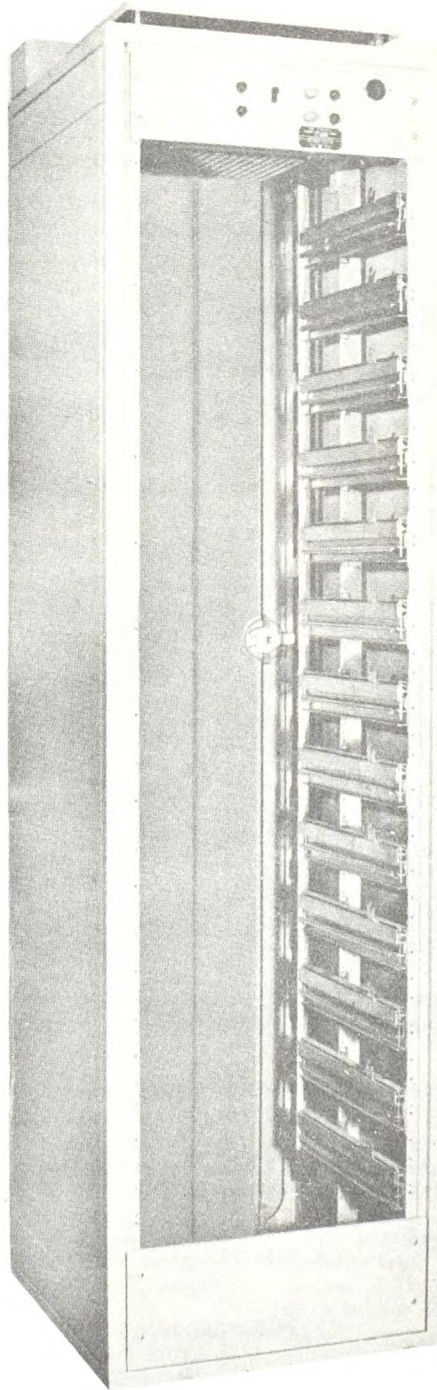

Figure 1-6. Telegraph Carrier Terminal Cabinet CY-1195/FCC-3, Identification of
f. TELEGRAPH CARRIER TERMINAL CABINET CY-1195/FCC-3. - (See figure 1-6.) One of these units is used as a cabinet for the transmitter group and another is used as a cabinet for the receiver group. The unit is designed to hold thirteen standard panel and chassis